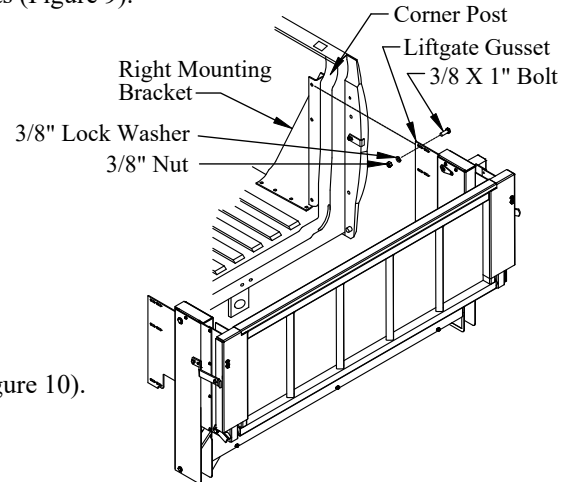

Figure 9: Mounting bracket and liftgate.
1. **Position** the two mounting brackets into the truck bed in front of the corner posts (Figure 9).
- (3) 3/8"x1" hex head bolts on the bracket-side (Figure 9).
- (3) 3/8" lock washers, and (3) 3/8" nuts on the gusset-side (Figure 9).